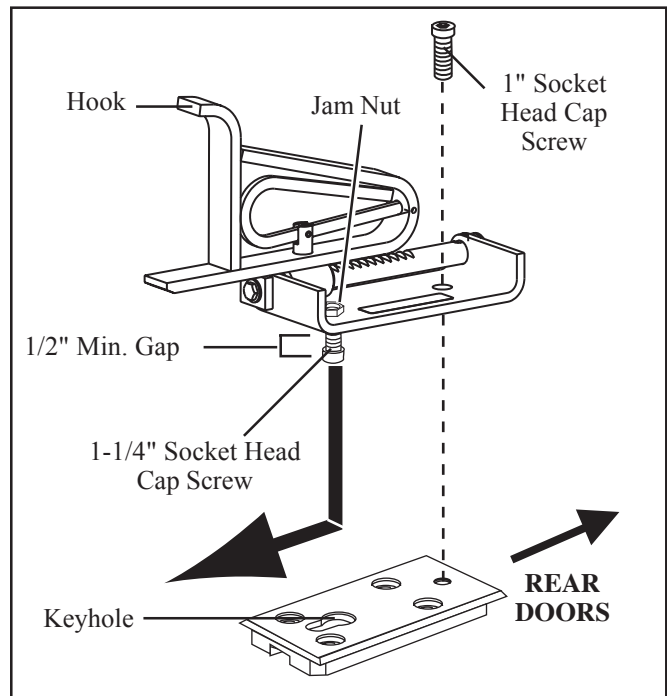

Figure 2 - Attaching the Rear Hook
1. Thread a new 1-1/4" socket head cap screw upward through the hole closest to the hook, leaving a 1/2" gap between the screw head and the hook plate (Figure 2). Secure the screw with a new jam nut, using a 3/4" box or socket wrench to tighten the nut.
2. Position the rear hook over the rear-hook floor plate, with the hook facing the antler (away from the rear doors as shown in Figure 2). Set the rear hook with the screw head in the large part of the keyhole.